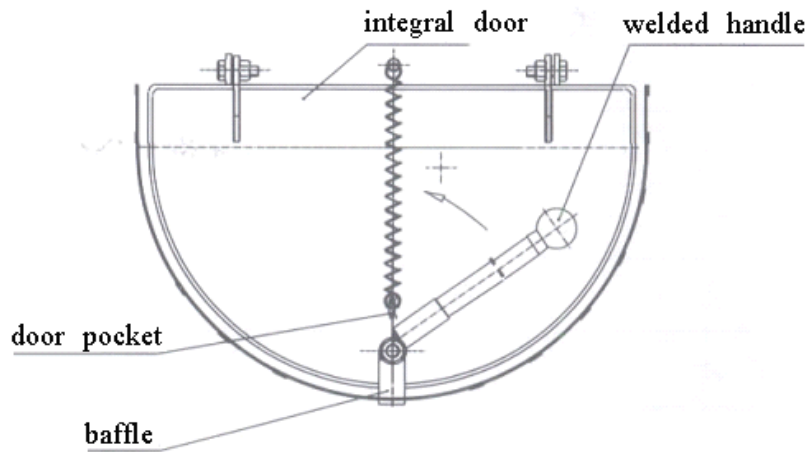

Fig.2
2.1.3 This machine's outlet part composes of welded handle and integral door. Turn the handle anticlockwise and push handle baffle to door pocket, then pullback spring will draw back the door panel to discharge. (Fig. 2)